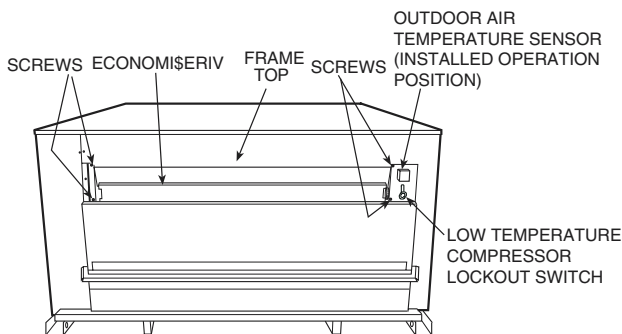
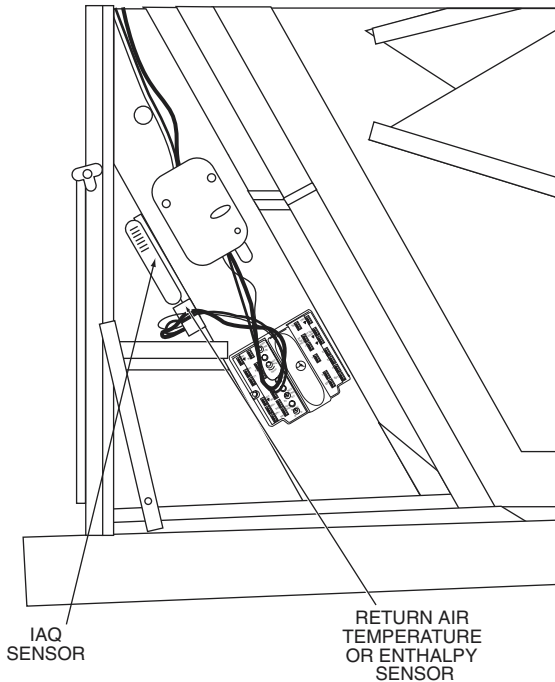
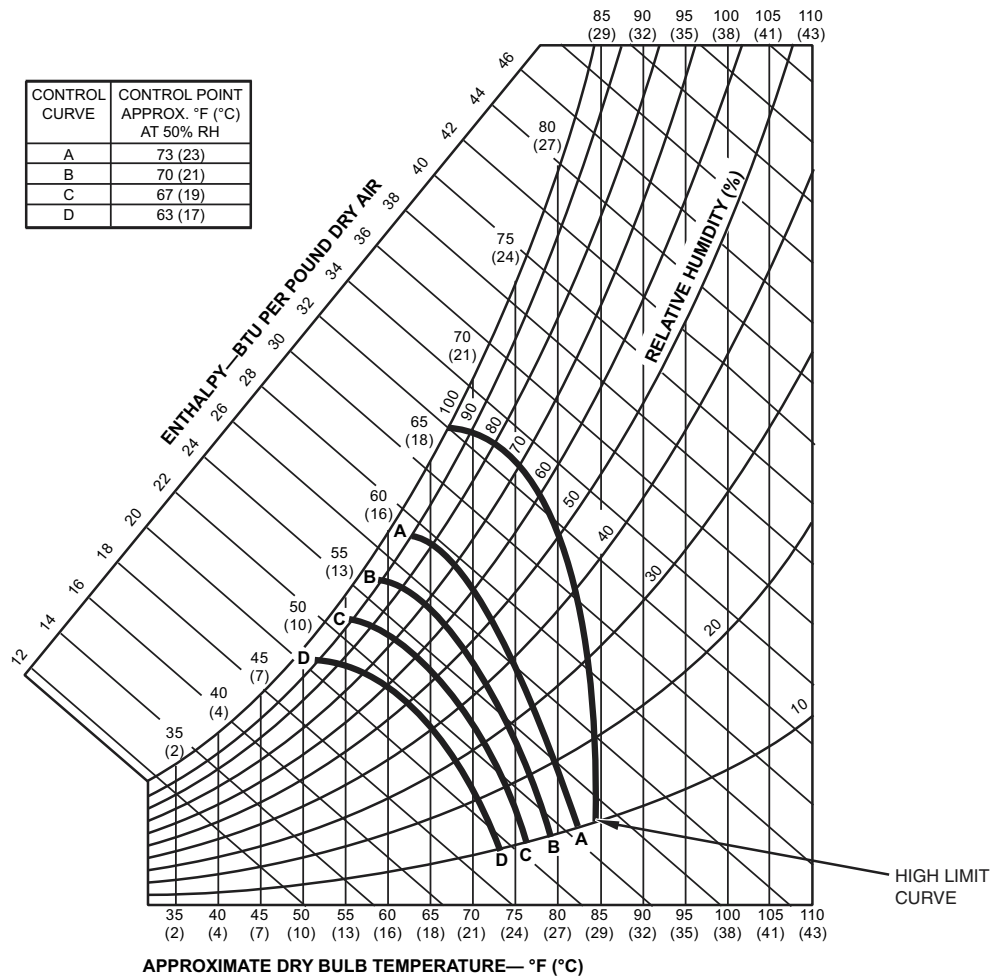

Fig. 25 — EconoMiSerIV Component Locations — End View
Fig. 30 — Return Air Temperature or Enthalpy Sensor Mounting Location
Fig. 31 — Enthalpy Changeover Set Points
See Fig. 25 and 26 for EconoMiSerIV component locations.
2. Relocate outdoor air temperature sensor from shipping position to operation position on EconoMiSerIV. See Fig. 25.
The outdoor air temperature sensor (HH57AC074) is a 10 to 20 mA device used to measure the outdoor-air temperature. The outdoor-air temperature is used to determine when the EconoMiSerIV can be used for free cooling. The sensor must be field-relocated. See Fig. 25. The operating range of temperature measurement is 40 to 100 F.
The EconoMiSerIV is equipped with an ambient temperature lockout switch located in the outdoor air stream which is used to lockout the compressors below a 42 F ambient temperature. See Fig. 25.
For differential dry bulb control the standard outdoor dry bulb sensor is used in conjunction with an additional accessory return air sensor (part number CRTEMPSN002A00). The accessory sensor must be mounted in the return airstream. See Fig. 30.
For enthalpy control, accessory enthalpy sensor (part number HH57AC078) is required. Replace the standard outdoor dry bulb temperature sensor with the accessory enthalpy sensor in the same mounting location. See Fig. 25. When the outdoor air enthalpy rises above the outdoor enthalpy changeover set point, the outdoor-air damper moves to its minimum position. The outdoor enthalpy changeover set point is set with the outdoor enthalpy set point potentiometer on the EconoMiSerIV controller. The set points are A, B, C, and D. See Fig. 31. The factory-installed 620-ohm jumper must be in place across terminals SR and SR+ on the EconoMiSerIV controller. See Fig. 25 and 32.
Replace the standard outside air dry bulb temperature sensor with the accessory enthalpy sensor in the same mounting location. See Fig. 25. Mount the return air enthalpy sensor in the return airstream. See Fig. 30. The outdoor enthalpy changeover set point is set with the outdoor enthalpy set point potentiometer on the EconoMiSerIV controller. When using this mode of changeover control, turn the enthalpy set point potentiometer fully clockwise to the D setting.
To control the minimum damper position remotely, remove the factory-installed jumper on the P and P1 terminals on the EconoMiSerIV controller. Wire the field-supplied potentiometer to the P and P1 terminals on the EconoMiSerIV controller. See Fig. 30.